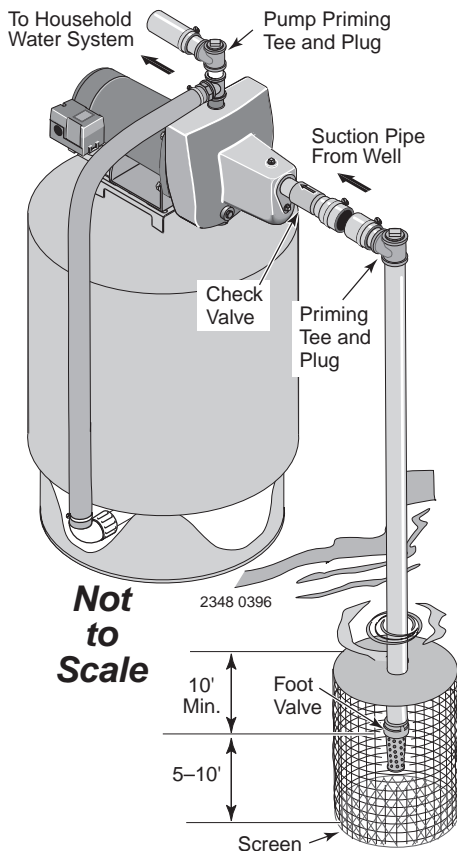

Figure 3: Surface Water Installation
2. Assemble a foot valve and suction pipe (see Figure 3). Make sure that the foot valve works freely. Use teflon tape or a teflon-based pipe joint compound on threaded pipe joints. Protect the foot valve assembly from fish, trash, etc, by installing a screen around it (see Figure 3).
4. Install a priming tee, priming plug, and suction pipe to the pump (see Figure 3). Support the pipe so that there are no dips or sags in the pipe, so it doesn't strain the pump body, and so that it slopes slightly upward from the well to the pump (high spots can cause air pockets which can air lock the pump). Seal the suction pipe joints with teflon tape or a teflon based pipe joint compound. Joints must be air- and water-tight. *If the suction pipe can suck air, the pump cannot pull water from the well.*
INSTALLATION FOR SURFACE WATER (FIGURE 3)